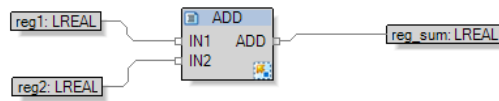

Figure 45: Create simple logic in the 61131 program.
7. In the drawing area below create an 'ADD' function block by Ctrl+W and typing 'ADD'. Right-click on IN1 and select **Add Internal Var.** Type 'reg1' as the VAR name and save. Do the same for IN2 and reg2, and ADD and reg\_sum as shown in Figure 45.